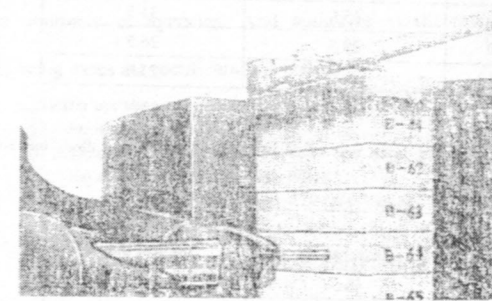

Figure 4
- ① 2 group samples total 10 pieces brick with Serial Number, fix one group sample on the brick pier, make sure their sides get good contact and fixed. Set wood plate and lever on sample as figure 4.
- ② Test and record rebound value. After testing five points in one side of the group, revolve the group sample and test the other side.
- ③ Test the other group sample.
- ④ Each test point only test once